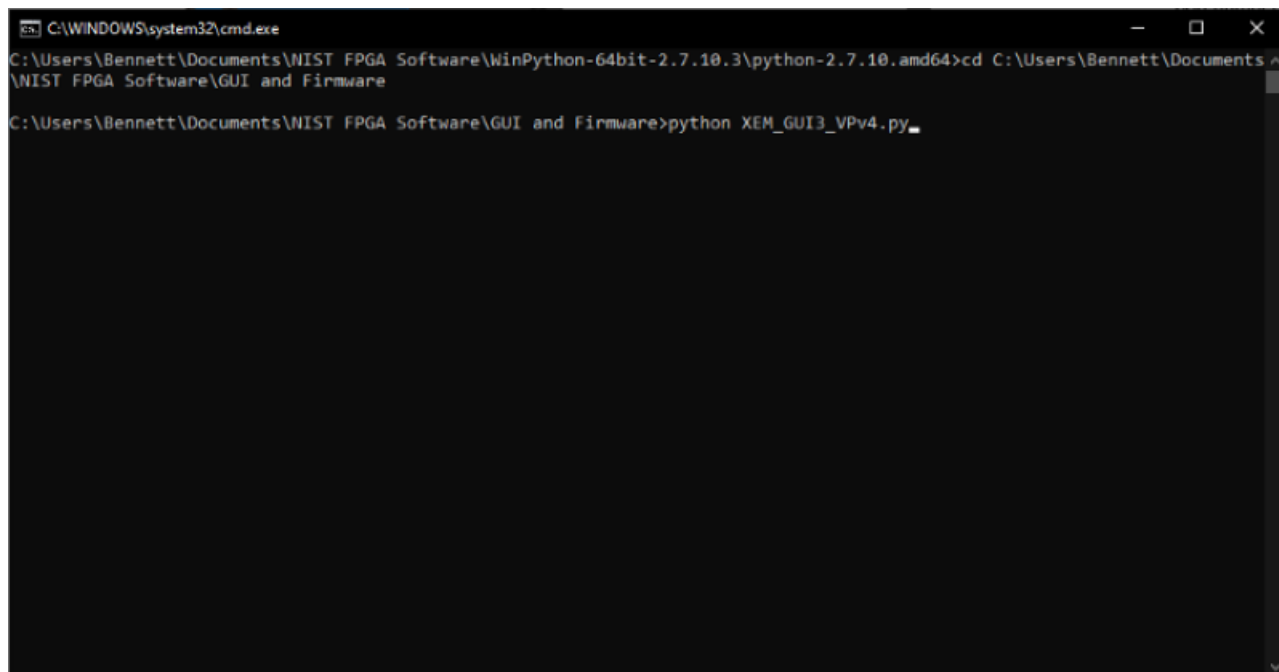

Fig. 1: Start FPGA GUI from Terminal
2. Start the SLICE-FPGA control GUI by typing “python XEM\_GUI3\_VPv4.py”, figure 1).